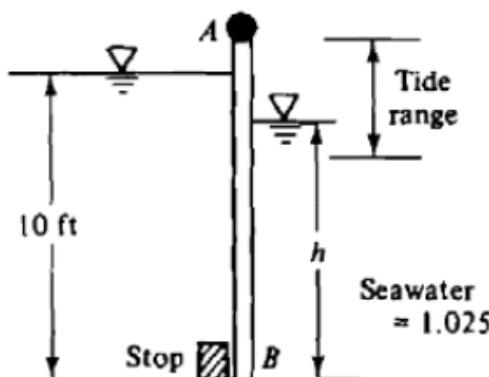

Figure 2 / Rajah 2
- [b] In Figure 2, the gate AB is 5 ft wide and open to let fresh water out when the ocean tide is dropping. The hinge at A is 2 ft above the fresh water level. At what ocean level height, h will the gate open? Neglect the gate weight.